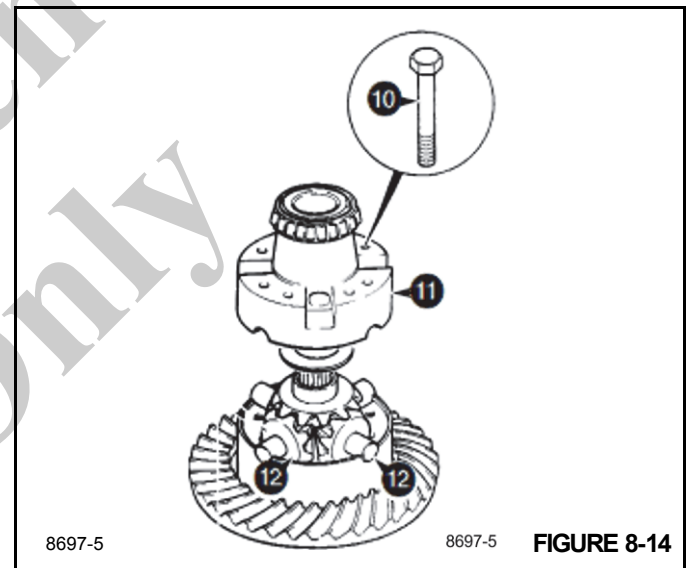

FIGURE 8-14
10. To dismantle the differential assembly, first remove bolts (Figure 8-14).